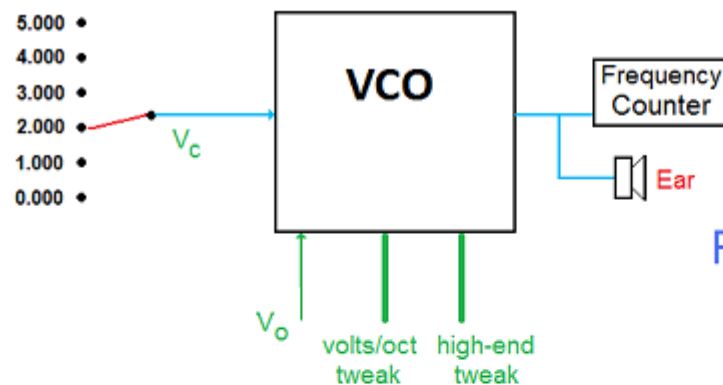
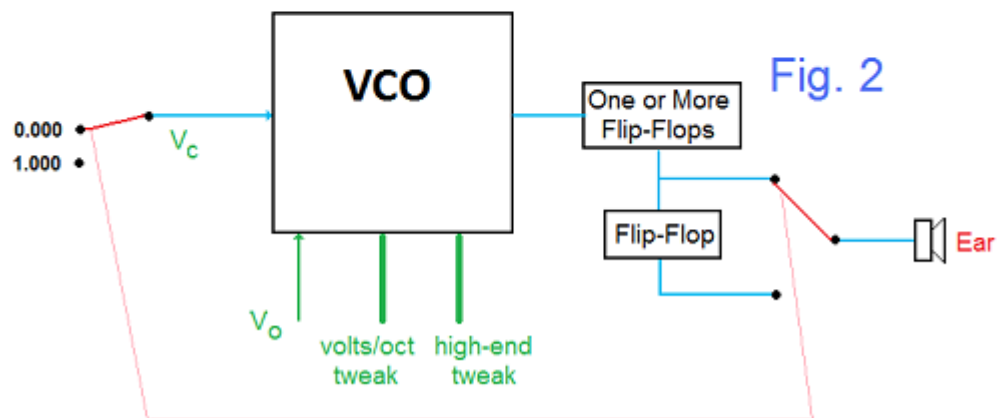

Fig. 1
Fig. 2
The bench setup of Fig. 1 seems appropriate. We have a switch to a series of integer voltages, good to 3 decimal places at least. This might be a pre-arranged reference bank, or perhaps a variable source with a good digital voltmeter. (It might even be a well-calibrated keyboard). We also show a reliable frequency counter.
An alternative method is suggested in Fig. 2. This method is actually simpler and probably better in practice. Here we have only two switched reference voltages: 0 and 1.0000. (As we shall show later, we can tweak the high end even if this voltage is not precise.) Here we have added a number of flip-flops such as CMOS types 4013 (which come two to a chip). The flip-flops are triggered (perhaps requiring a level shift) from the VCO’s square-wave output. Each flip-flop stage lowers the pitch one full octave exactly. We recommend at least one flip-flop to assure a perfect square wave of well-defined amplitude, and to lower the pitch to a range that is easier to hear. [Note that a frequency even as “low” as 2000 Hz seems “piercingly” high.] Once you have found a good division using the upper flip-flop group, add one more, switched as shown.
(1) High-end tweaking usually has a theory and a practice. In practice, a theoretical component may need to be experimentally adjusted – perhaps 20%, perhaps 50%, or more. We are dealing with fine adjustments, and relatively large changes in percentage of small components are still small, and plenty of “second-order” effects are in play. [It’s kind of like fixing the dip of a bridge by one prop at the end, even though we could have fixed this beam and that girder individually.]
(2) It is because there is only one voltage in Fig. 2, used for all octaves, that we expect and get better results. Fig. 1 requires that all 6 voltages have a consistent difference of 1 volt. The high end tweak might be under-done because the top voltage might be, 5.003 instead of 5.000, for example. [It’s like the guaranteed linearity of one bit D/A and A/D converters in digital audio.]
(3) Note that high-end tweak in general distorts the waveshape! But we only needed to get the frequency right. WE do get harmonic distortion as a result, but by the time you get to 16 kHz, the first harmonic is already above audio.
Now, suppose you tweaked the VCO to 1 volt/octave as in Fig. 2. But, suppose further that your keyboard is a bit low (perhaps it has a current in a divider string that is only 98% what was intended. Despite your careful tuning, the synthesizer is flat.